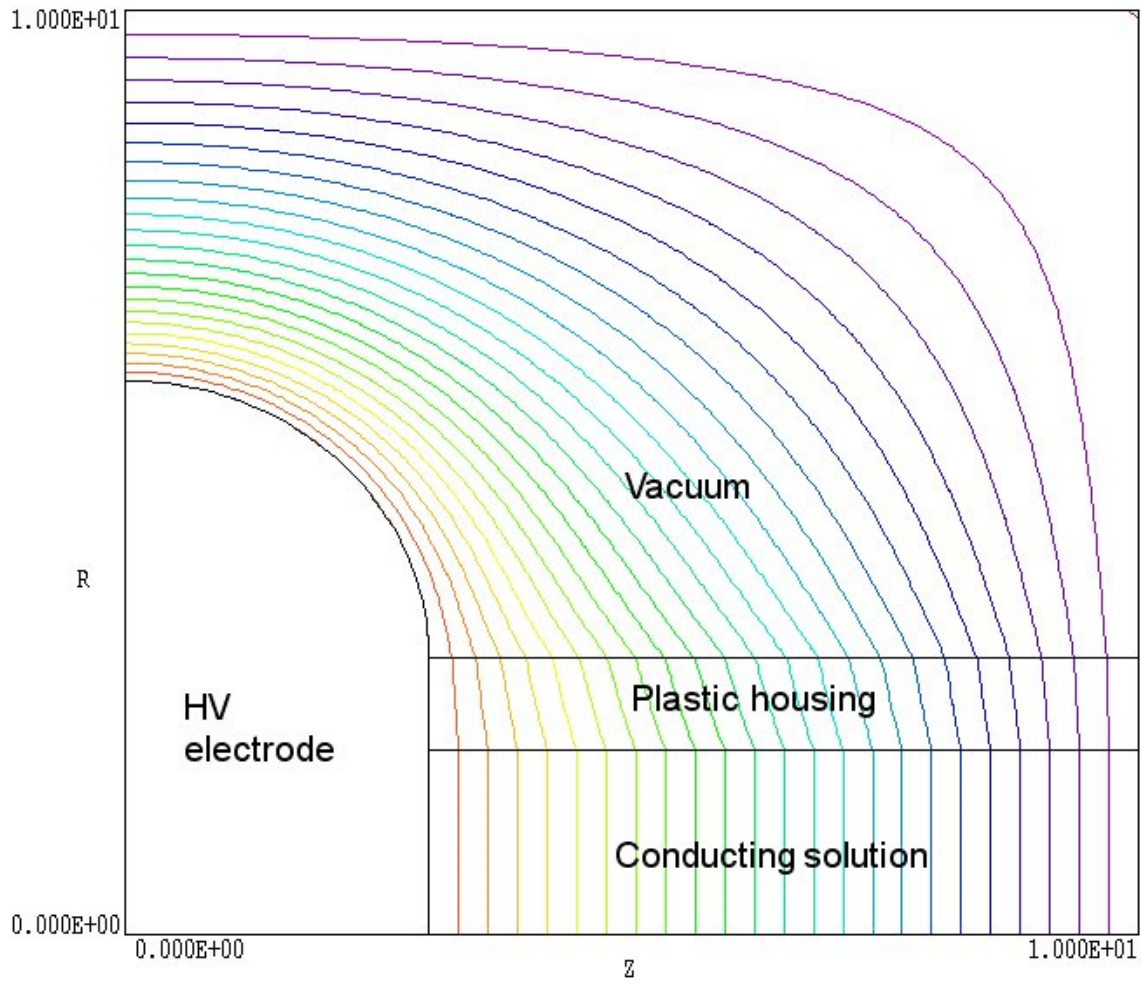

Figure 5. Illustration of a mixed dielectric-conductive solution - *ConductingProbe* example.
There are some cases where **EStat** can be used to model systems with a mixture of materials where some satisfy Eq. (9) and others satisfy Eq. (10). For example, Fig. 5 shows a resistive voltage probe for a high-voltage pulse generator. The conductive solution inside the probe has been adjusted to satisfy Eq. 10. The plastic housing and vacuum space have $\sigma = 0.0$ and therefore satisfy Eq. (9). In the dielectric solution of Fig. 5 the plastic and vacuum regions have relative dielectric constants $\epsilon_r = 2.7$ and $\epsilon_r = 1.0$. The conductive solution was assigned a value $\epsilon_r = 1.0 \times 10^4$. The electrostatic solution in the conductive region is determined by the shape of the medium with little dependence on the surrounding dielectrics. Note that the electric field in the solution has uniform amplitude and is purely